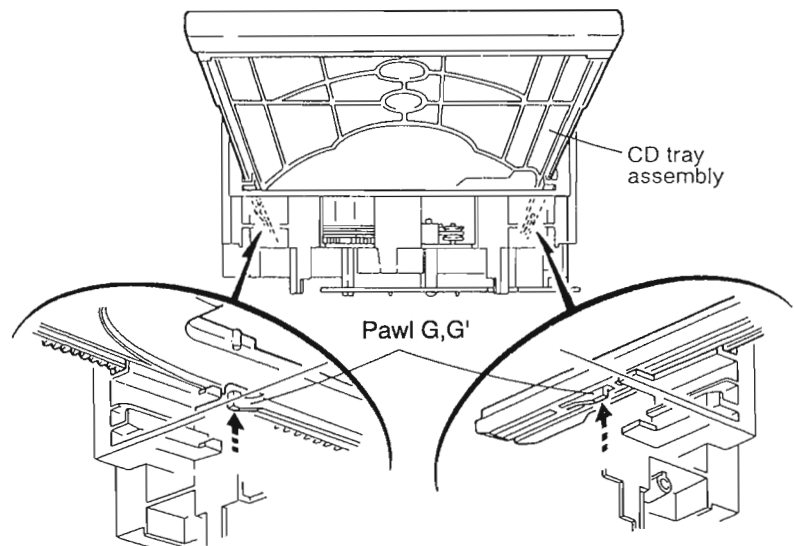

Fig.3-43
15. At the position where the CD tray assembly has stopped, pull out the CD tray assembly while pressing the two pawls "G and G'" on the back side of CD tray assembly (See Fig.3-43). In this case, it is easy to pull out the assembly when it is pulled out first from the stage CD tray assembly.